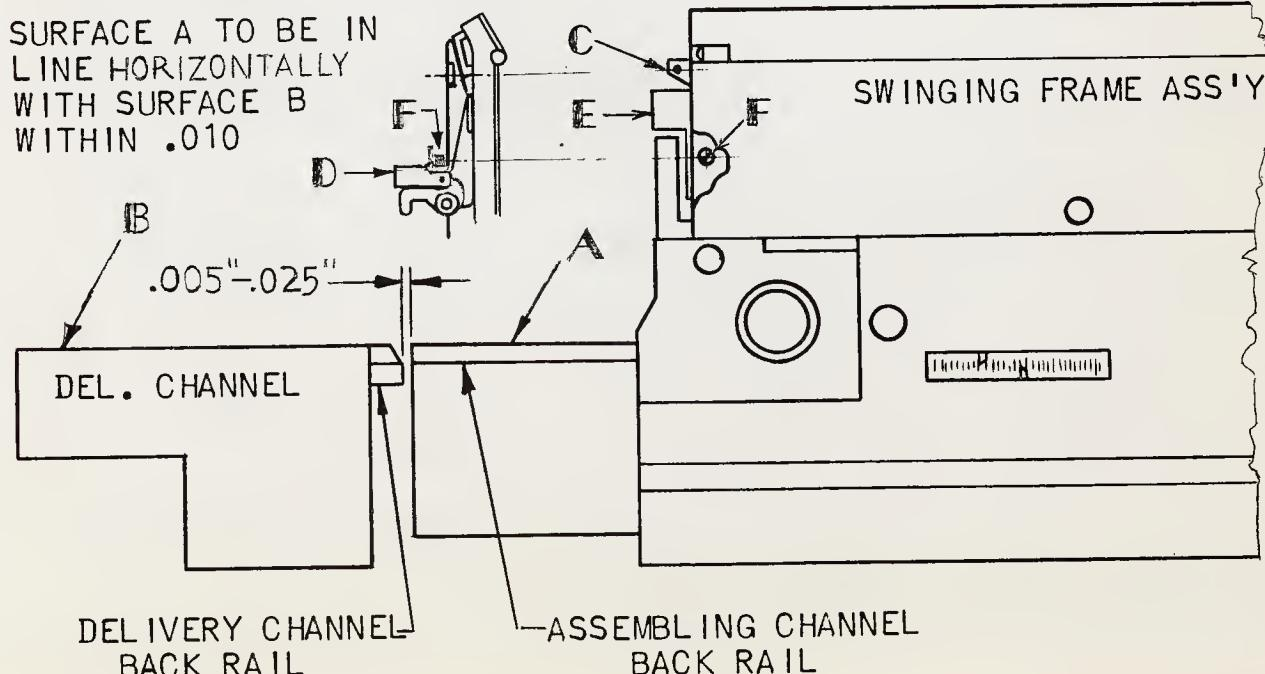

FIG.10
There are two screws used for the "in" and "out" adjustment of the swinging front. The upper screw is in the swinging front as shown at (C), Fig. 10. The lower screw is in the right hand end of the face plate assembly, just to the right of the No. 3 finger hub, when this finger is in normal position.
2. Vertical Adjustment (Fig. 10)
3. Clearance between assembling channel and delivery channel (Fig. 10)